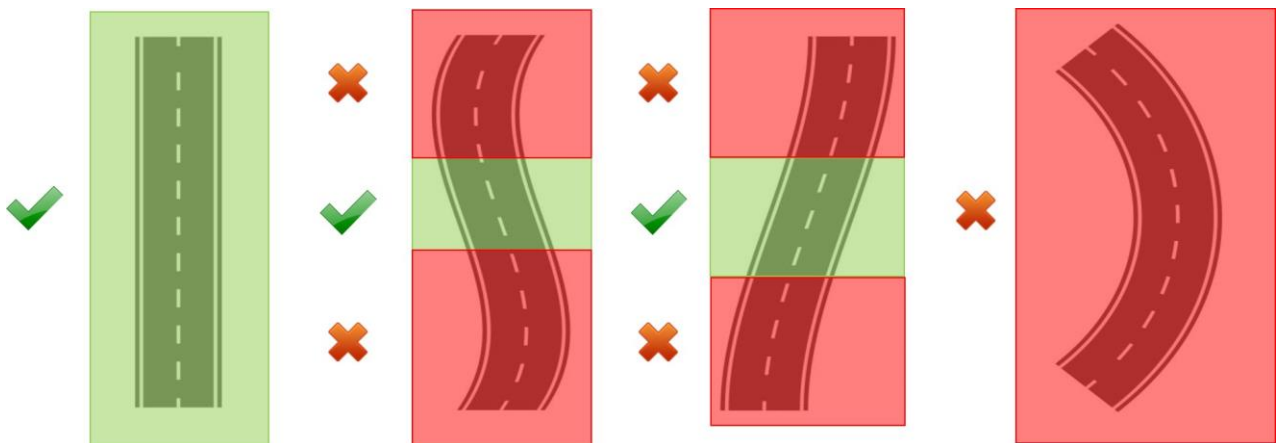

Figure 3 – Configuration of sensors on straight roads (green correct, red wrong)
6. Sensors can be configured only on straight roads (Figure 3)